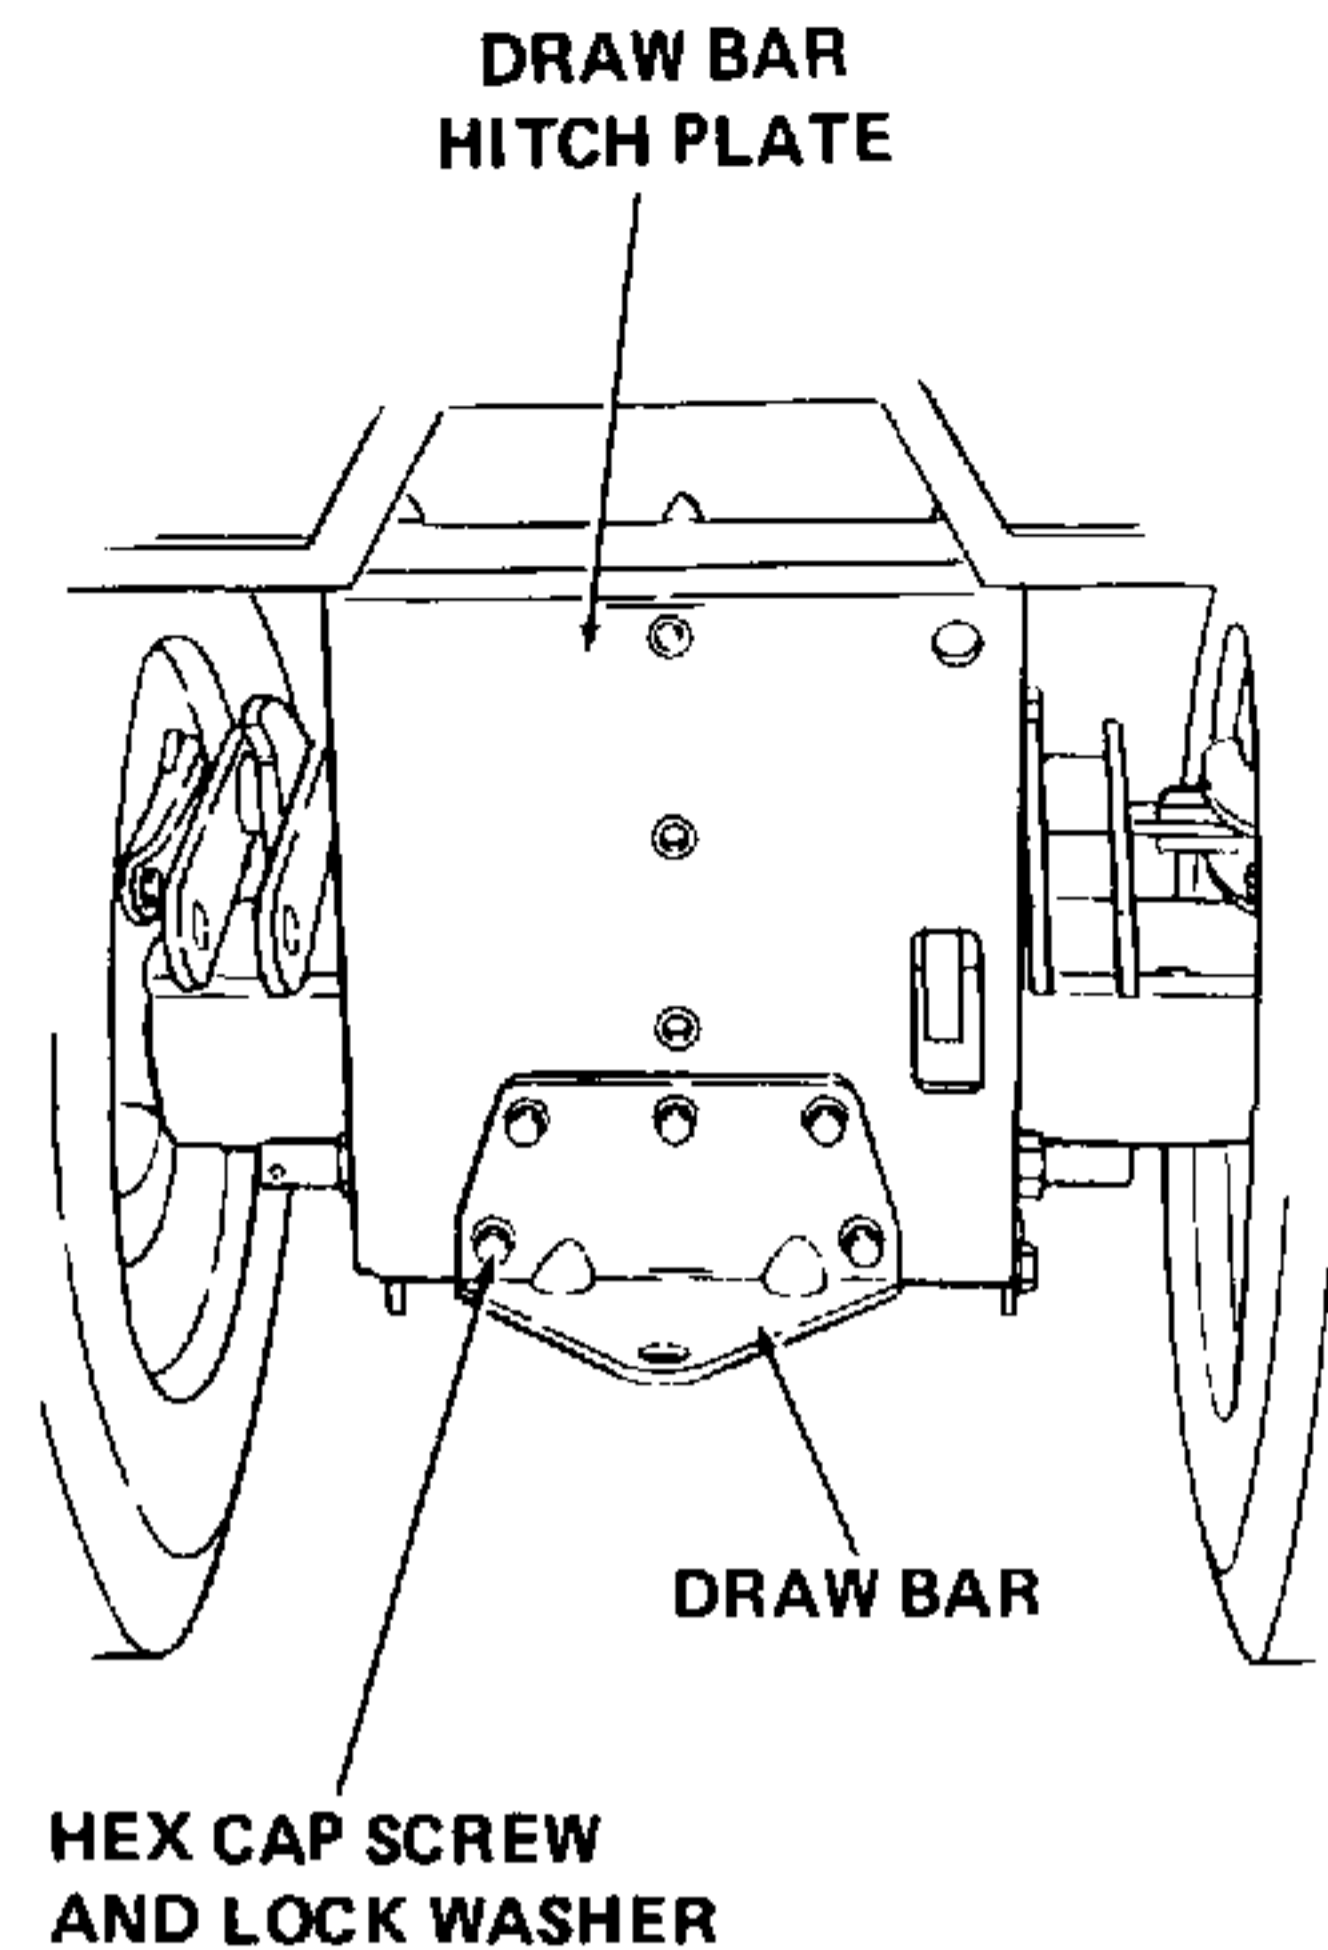

Figure 7-55. Installing Draw Bar Hitch Plate.
6. Install draw bar hitch plate on 3-point hitch plate with five hex cap screws and lock washers. Refer to Figure 7-55.